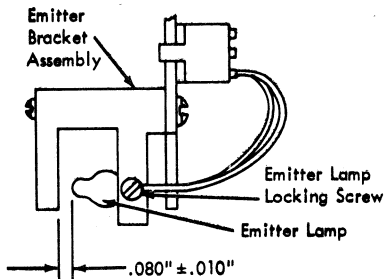

Figure 4-14. Read Emitter Lamp Adjustment
3. Maintain  $.080'' \pm .010''$  between tip of lamp and cell mounting bracket (Figure 4-14).